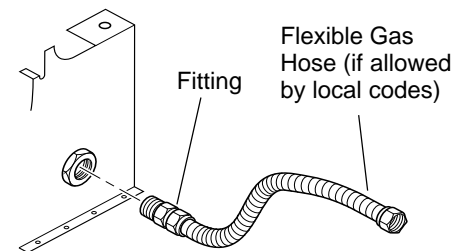

Figure 11 - Attaching Flexible Gas Hose to Heater
1. Apply pipe joint sealant lightly to male threads of the fitting to be threaded into gas control. Connect approved flexible gas hose to gas control fitting in heater (see Figure 11). **IMPORTANT:** Hold gas fitting with wrench when connecting flexible gas hose.